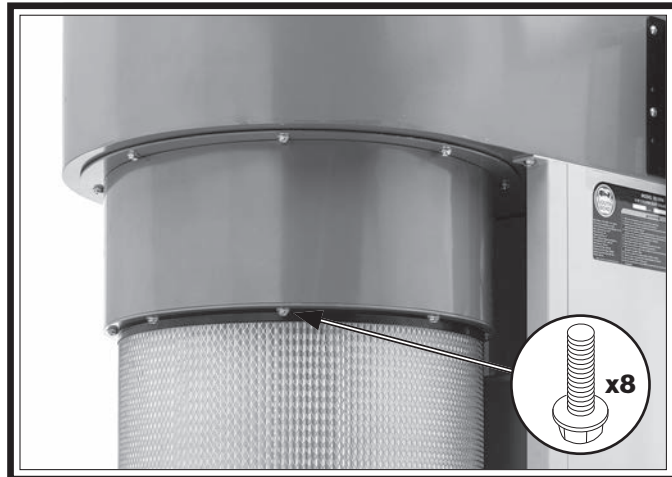

Figure 24. Canister filter attached to housing assembly.
17. Attach canister filter to assembly housing with (8) $\frac{5}{16}$ "-18 x $\frac{3}{4}$ " flange bolts (see **Figure 24**).